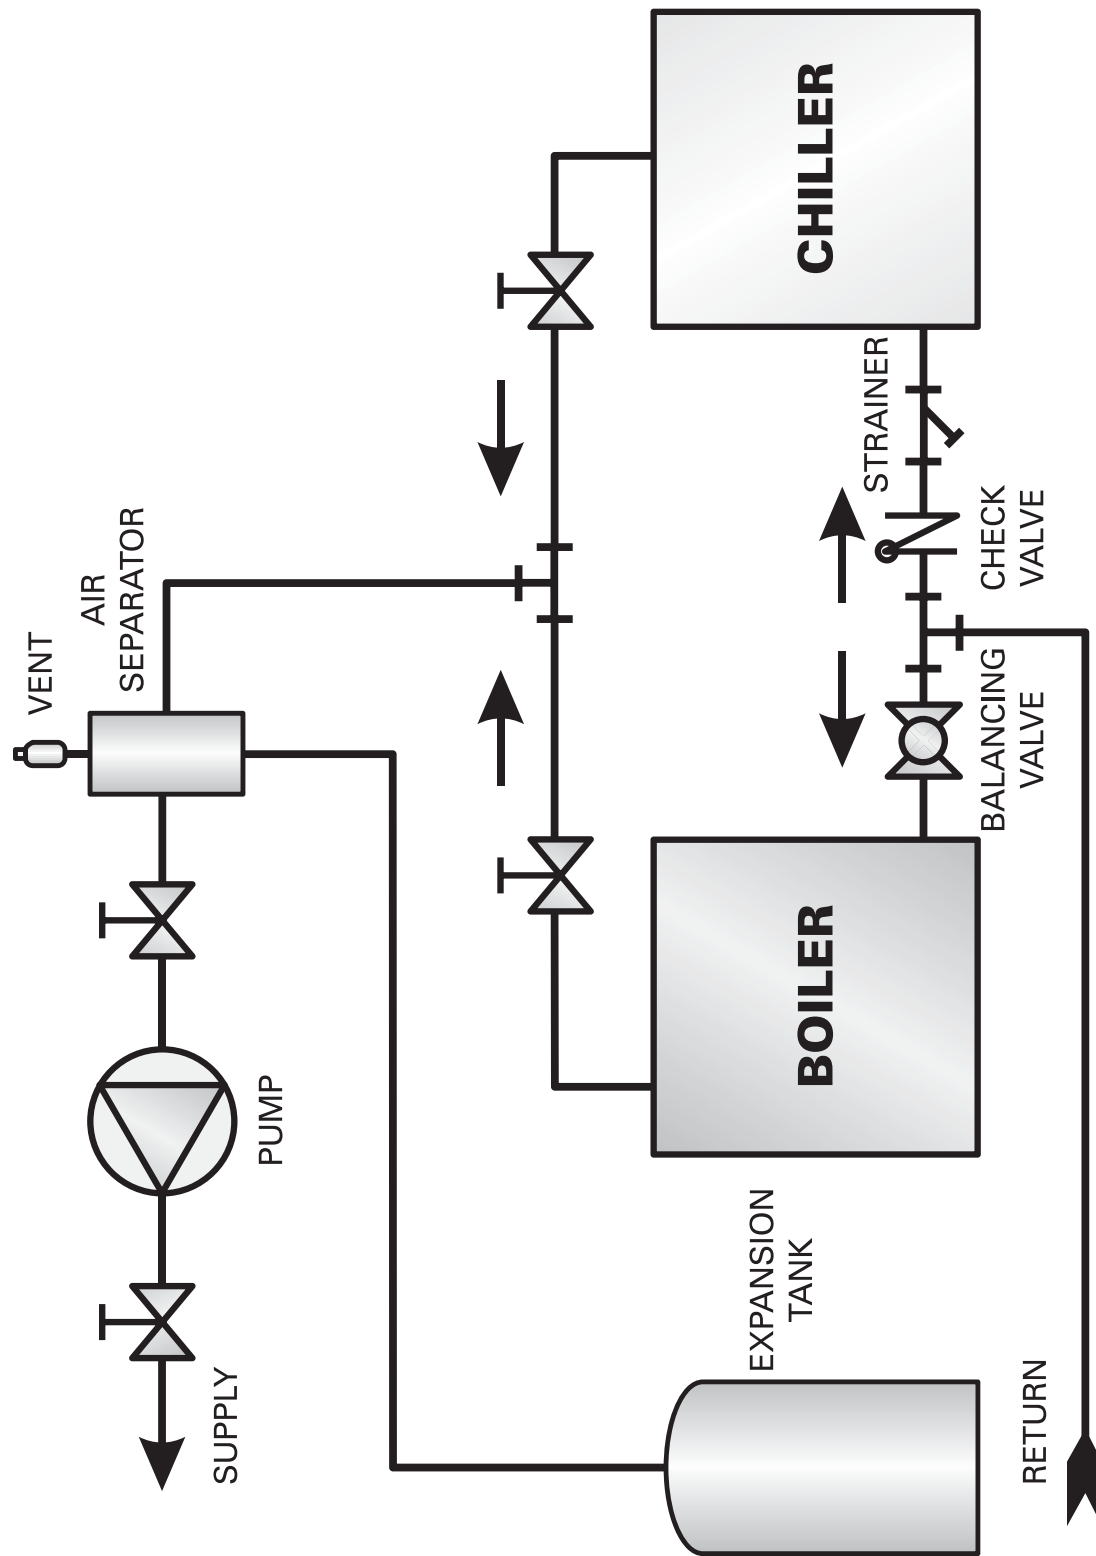

Figure 5.6: Piping to Isolate Boiler from Chilled Medium on Chiller Systems
1. If the boiler will be used in conjunction with a refrigeration system, the chilled medium must be placed in parallel with the boiler and proper valves applied to prevent the chilled medium from entering the boiler. See Figure 5.6.